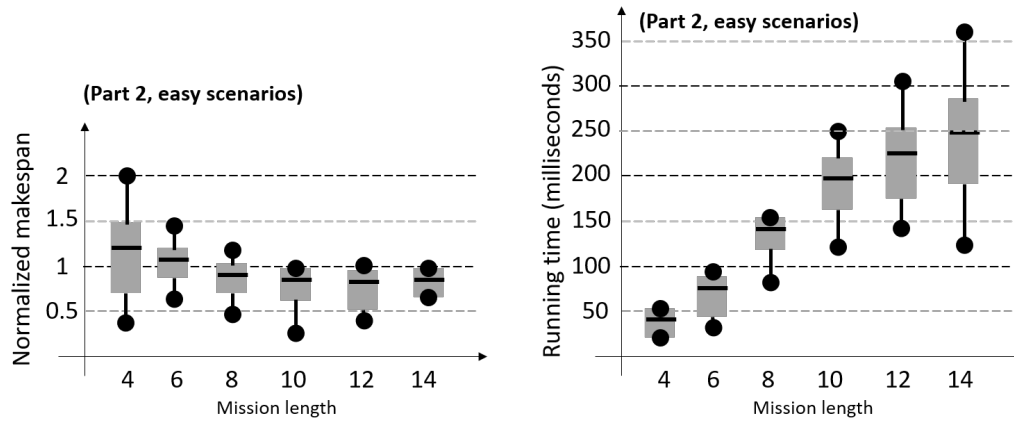

Figure 3: An example of charts for reporting the performance.
- ☺ Report on the makespan and running time of your algorithms on Dataset1 by using a boxplot, see Fig. 3 for an example. On the vertical axis of the diagram, you can plot the *normalized makespan* or the running time of your solution. Normalized makespan is the ratio between the makespan of your solution to the makespan of the baseline solution.